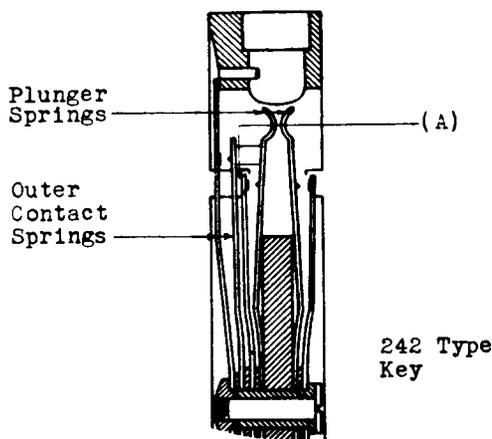

Fig. 3
**\*2.05 Spring Clearance:** Fig. 3(A) — (A3-, B11-, 69-, 183-, 242-, 508-, 521-, and 539-type Keys) — When the plunger is removed from the key, there shall be a clearance between the crimps of the plunger springs and between other springs designed never to make contact with each other of